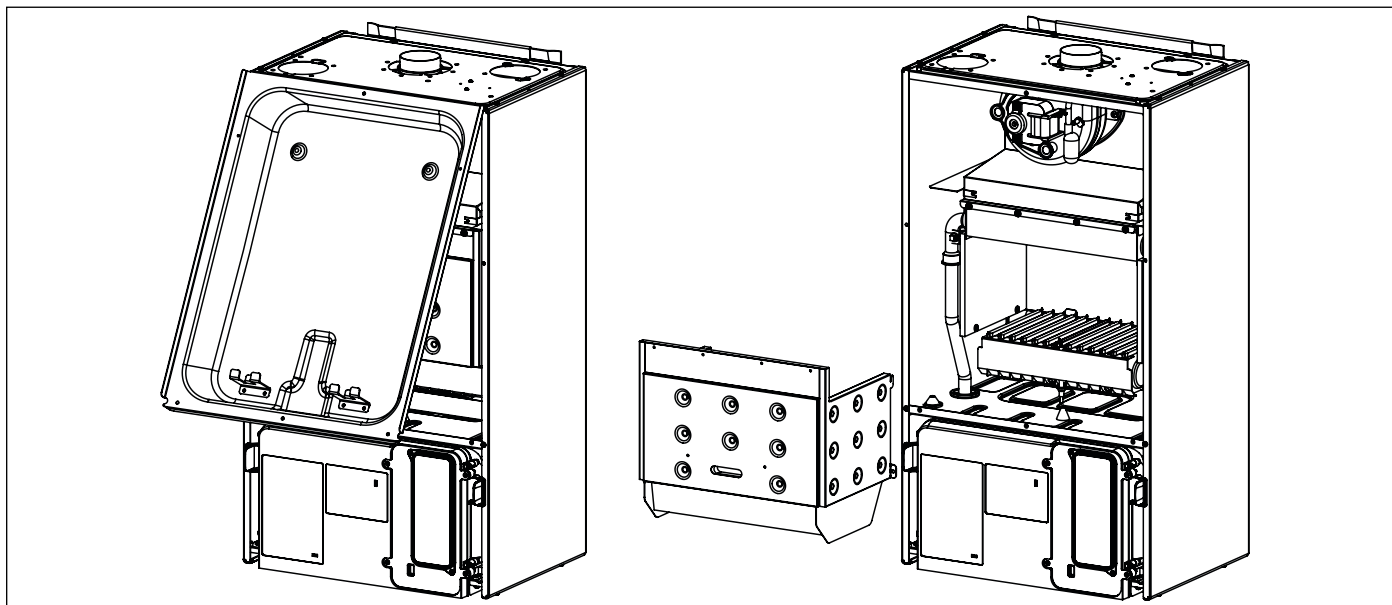

Fig. 46 Combustion chamber removal
- Remove the front panel of the combustion chamber (see Fig. 46 Combustion chamber removal).